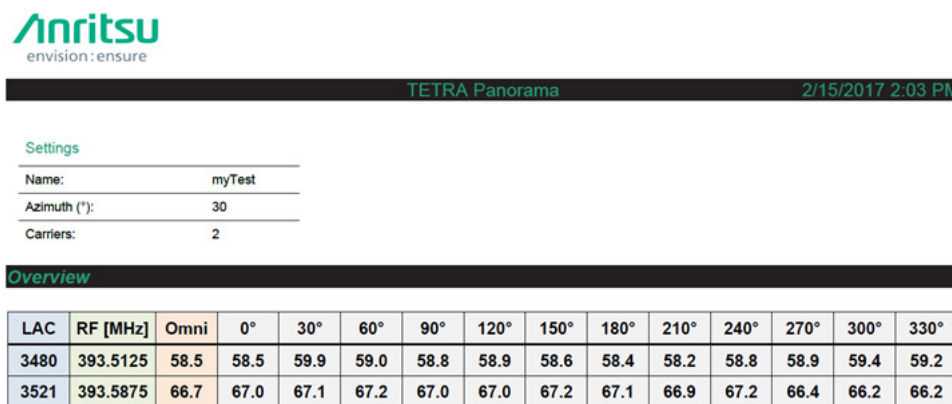

Figure A-9. Panorama Measurement Report
14. Note that this is a demo program only, so measurements for each LAC signal will not vary a lot. Click **Export** to see report generated in Figure A-9, “Panorama Measurement Report”.